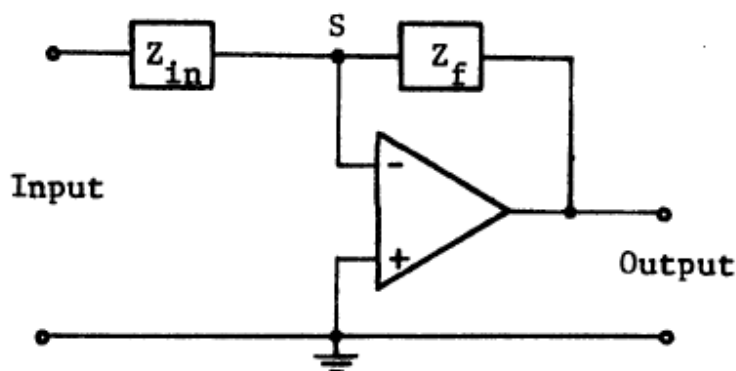

Fig. 1: Layout for inverting op amp circuits. The point  $S$  is the “summing point.”
**Introduction:** Operational amplifiers are employed in a broad spectrum of analog circuits designed to amplify, filter, buffer, sum, integrate, differentiate, and so on. Such circuits require few external discrete components beyond the op amps themselves, and they require very little sophistication on the part of the user. All op amp circuits fall in either the “inverting” or the “non-inverting” configurations. A general form for the inverting configuration is shown in Fig. 1. Here, as in virtually all cases, if the “open-loop” gain of the op amp is sufficiently large ( $10^6$  or better), the circuit’s behavior depends only upon the external impedances  $Z_{in}$  and  $Z_f$ . The input/output relations is
If both impedances are resistive, the circuit simply amplifies. But, if one of the impedances is a capacitor or inductor and hence is *reactive*, then the circuit serves as a differentiator or integrator. Numerous other variations exist as well. The circuits represented by Fig. 1 are best understood by assuming that the op amp senses the voltage difference across its input terminals and produces an output that is just sufficient to pull the summing point  $S$  back to ground, or *virtual ground* via current drawn through the feedback element  $Z_f$ .